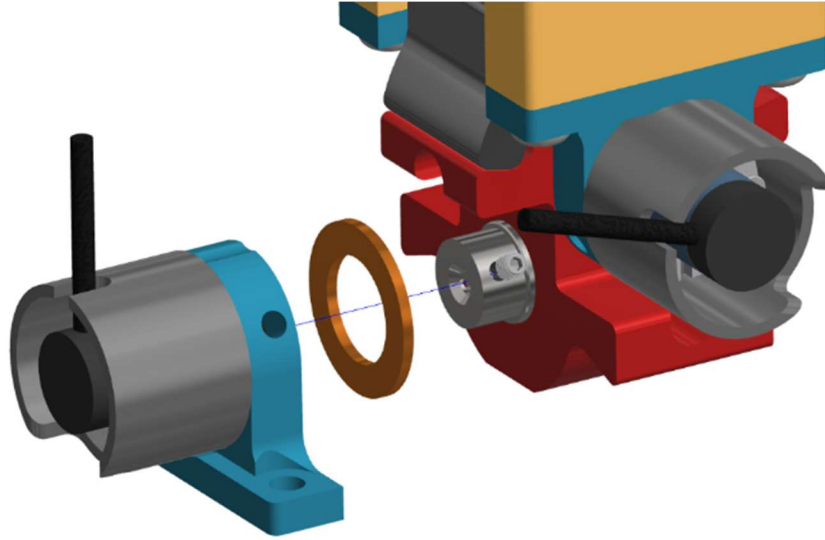

Figure 10-27. Loosen the M3 X 0.5 X 3 LG. SSSNP from the X-Axis Potentiometer.
- 10.2.23 Loosen the M3 X 0.5 X 3 LG. SSSNP from the X-Axis Potentiometer (Figure 10-27). Then slide the X-Axis Potentiometer from the Ankle Center Block Assembly.